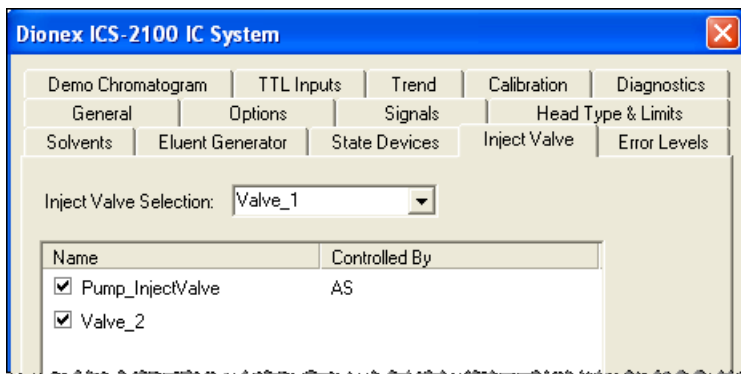

Figure 20. Inject Valve Properties: Inject Valve Controlled by the AS
- If the timebase will include a AS or Dionex AS-DV, the **Controlled By** setting for **Pump_InjectValve** must be **AS** (see Figure 20).